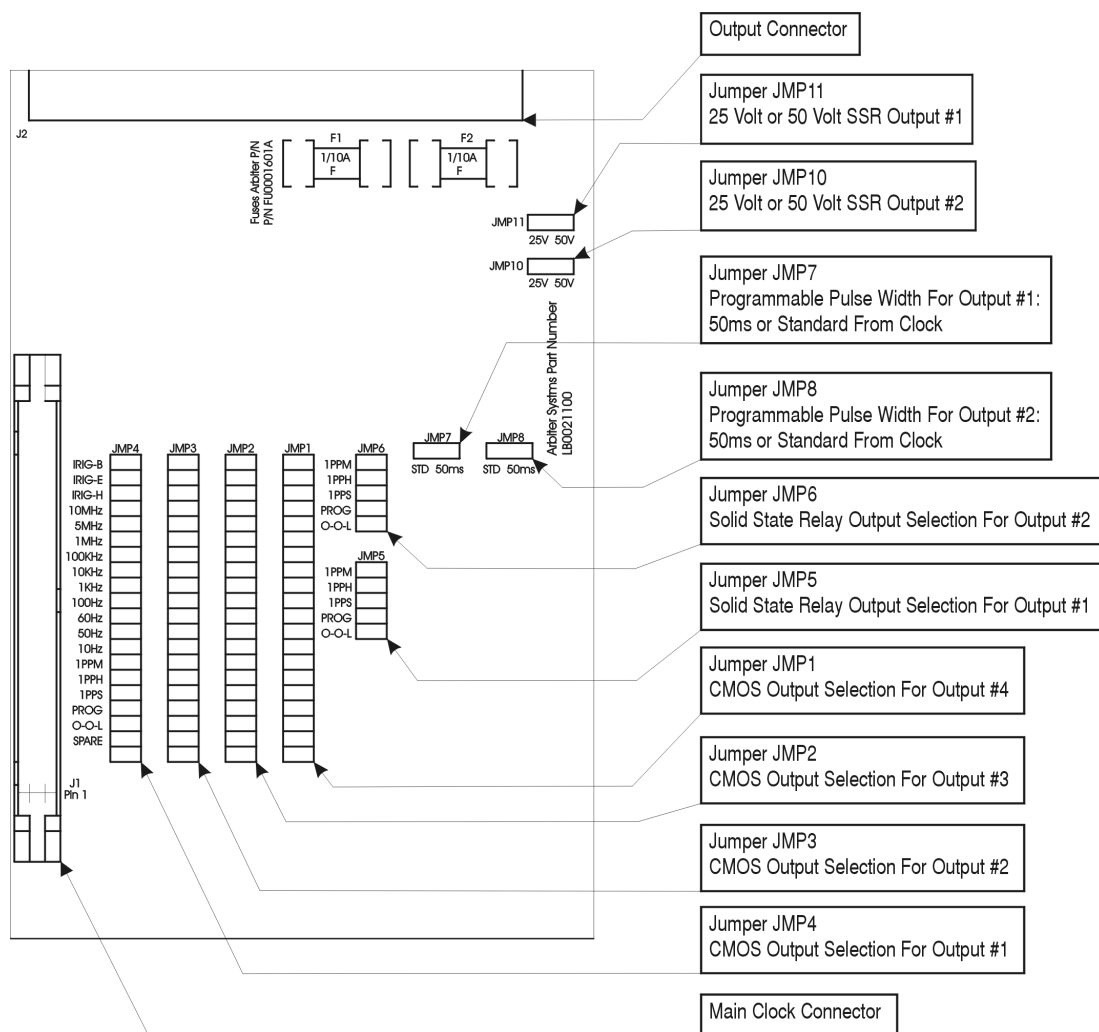

Figure C.9: Option 29 Jumper Locations
Available Output Signals: Jumper selectable to any of the digital signals available from the clock mainframe plus on board generation of 1 PPM and 1 PPH for the 1093 clock models. See Figure C.9 for Jumper location and selections.
3. Locate the appropriate Jumper using Figure C.9 and move the jumper to the desired setting.